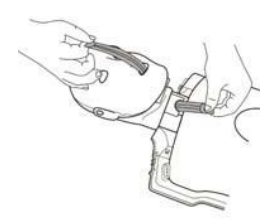

Figure 7
7. Grasp the Lung-Bag and finish pulling it through the neck of the manikin (Figure 7).